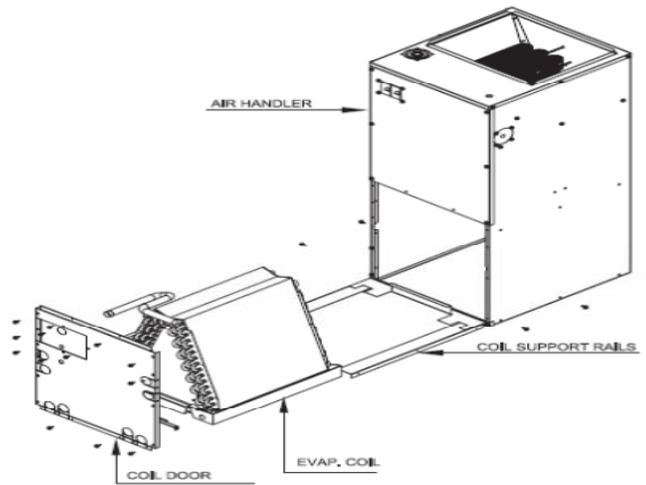

Figure 8: Evaporator Coil Disassembly for conversion to downflow.
6. Re-install the evaporator coil support rails in the holes provided in the unit casing as shown in Figure 8. Use the six (6) screws that were removed in step 4 to secure the evaporator coil support rails to the unit casing.
7. Re-install the cooling coil in the upright position as shown in Figure 8.
8. Remove the new evaporator coil access door from the kit and install over the evaporator section as shown in Figure 8.
2. Remove the evaporator coil assembly with the drain pan by sliding it out of the front of the unit as shown in Figure 8.